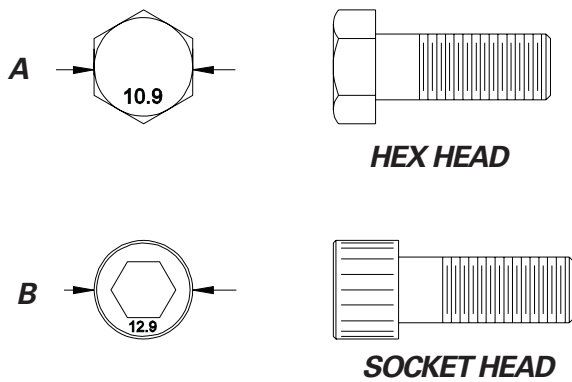

FIGURE 5-2
1. Always replace bolts and nuts with the same size and class of fastener. Replacement fasteners can be ordered from the Stanley LaBounty Parts Department to ensure the correct part is used (refer to Figure 5-2). Unless otherwise specified, use class 10.9 metric hex head capscrews, class 10.9 metric flat head capscrews, and class 12.9 metric socket head capscrews.